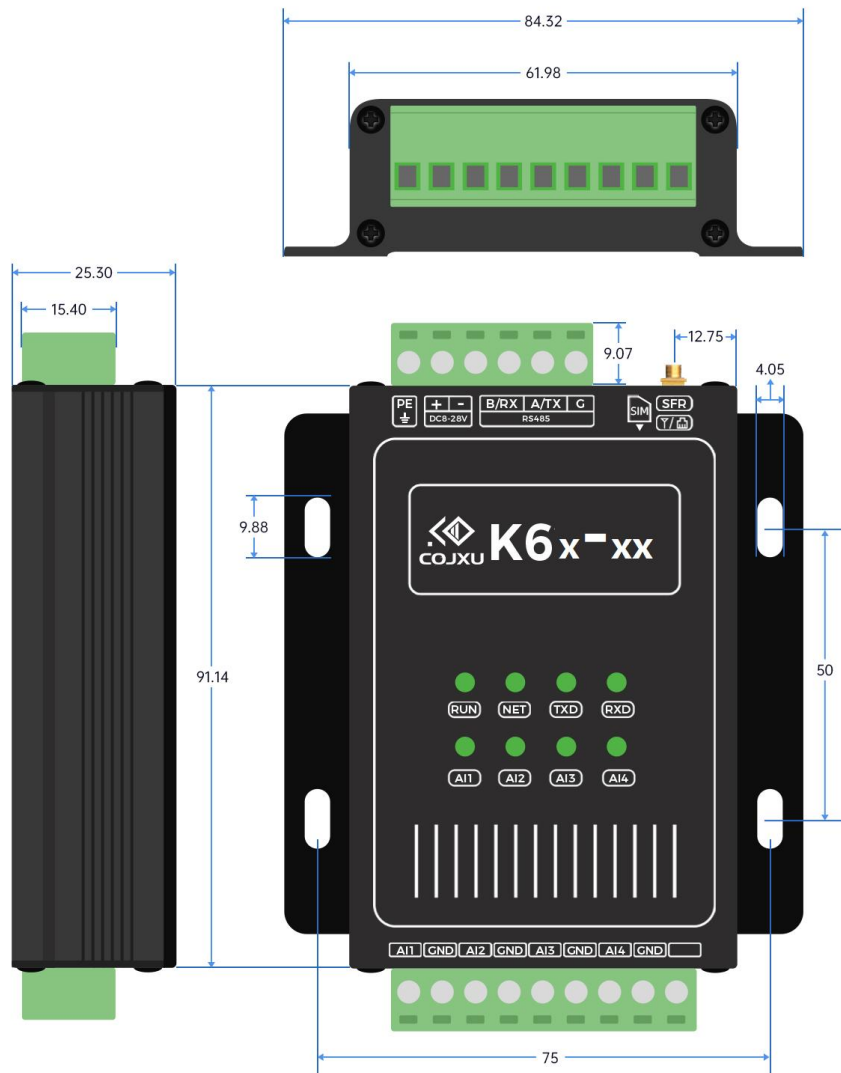

Figure 1-2 Product Dimensions
2. Figure 1-2 below is the reference size of the product, the error is $\pm 0.3\text{mm}$, please refer to the actual product.